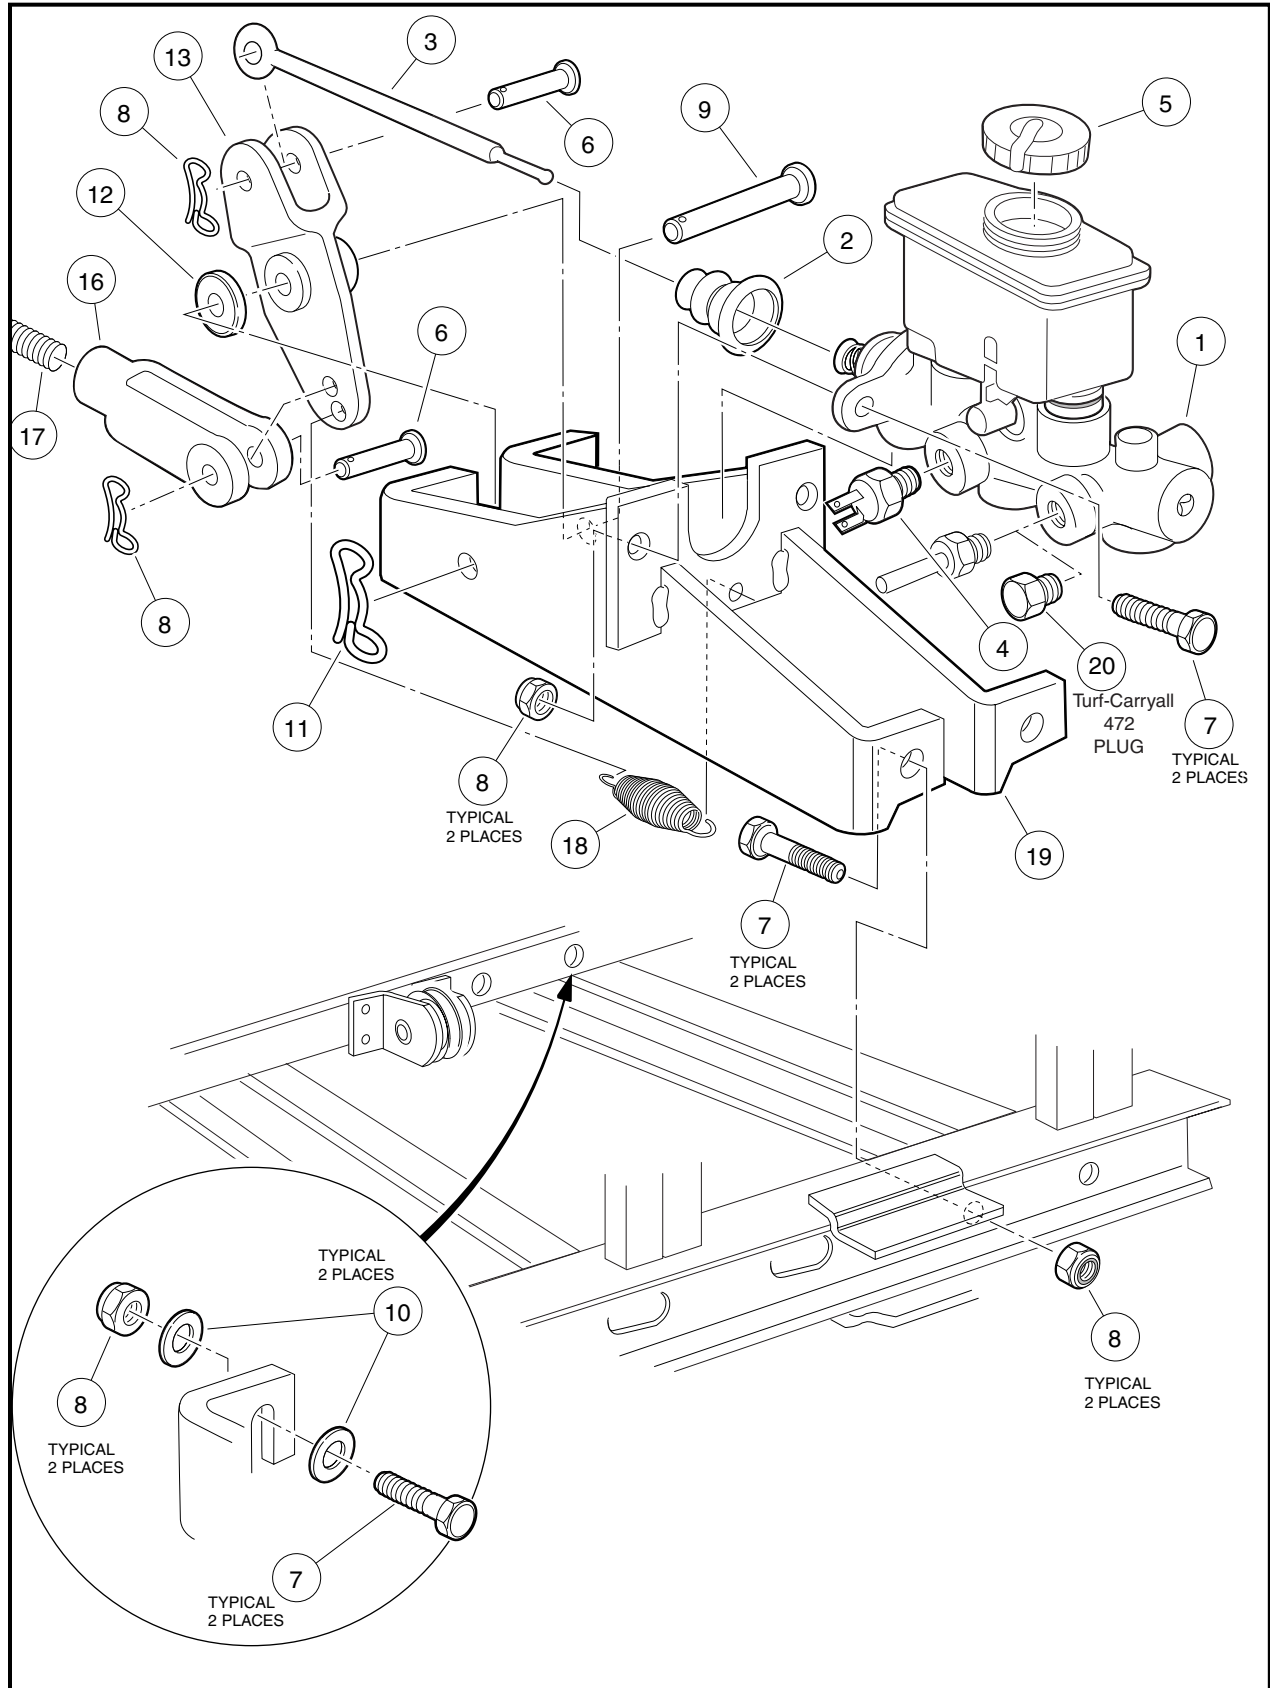

Figure 6-22 Master Cylinder
2. Remove brake rod clevis pin (6), bow tie locking pin (8) and clevis (16) from the bell crank (13) (**Figure 6-22, Page 6-30**).
3. Remove the spring (18) from the bell crank (13) and master cylinder mounting bracket (19).
4. Remove push rod (3), clevis pin (6) and bow tie locking pin (8).
5. Remove bell crank clevis pin (9) and bow tie locking pin (11) from the master cylinder mounting bracket (19) and remove bell crank (13) and centering spacer (12).
1. Install bell crank clevis pin (9) through the master cylinder bracket (19), bell crank (13), centering spacer (12) and attach bow tie locking pin (11) (**Figure 6-22, Page 6-30**).
2. Install push rod clevis pin (6) through bell crank (13) and push rod (3) and attach bow tie locking pin (8).
3. Install brake rod clevis pin (6) through clevis (16) and bell crank (13) and attach bow tie locking pin (8).
4. Install spring (18).
3. Remove the two wires from the master cylinder pressure switch (4) (**Figure 6-22, Page 6-30**).
8. Remove the two bolts (7) and nylon lock nuts (8) that secure the master cylinder (1) (**Figure 6-22, Page 6-30**).
9. Remove master cylinder (1) from mounting bracket (19), push rod (3) and rubber boot (2).
1. Install master cylinder (1) into mounting bracket (19) and insert push rod (3), then seat boot (2) (**Figure 6-22, Page 6-30**).
2. Install the two bolts (7) and nylon lock nuts (8) that secure the master cylinder (1) to the master cylinder mounting bracket (19) and tighten to 14 ft-lb (19 N·m).